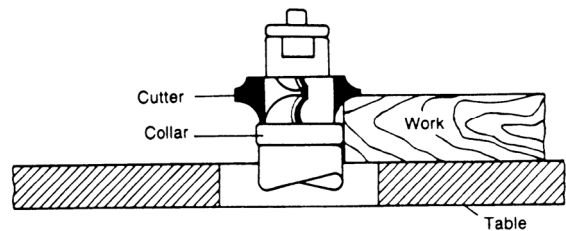

Figure 16
1. When using the collar below the cutter, Figure 16, the progress of the cut can be observed at all times. A disadvantage of this method is any accidental lifting of the work will gouge the wood and ruin the workpiece.